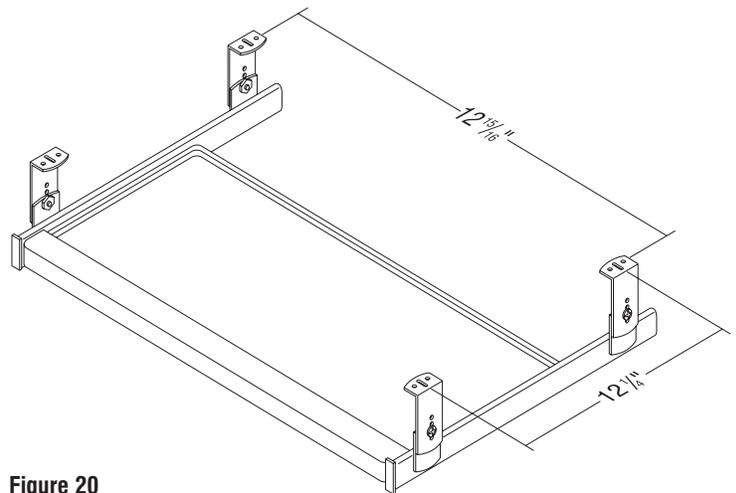

Figure 20
10. Drill corresponding pilot holes to the pattern formed by the bracket slots taking care to not drill too deep, piercing the surface (Figure 20).
11. Attach the tray assembly by holding it up to the bottom surface of the table/desk top and inserting screws (not included) into the top (Figure 20).
12. It is recommended that at least four screws (one for each angle bracket) be installed to adequately secure tray assembly to table/desk surface (Figure 20).